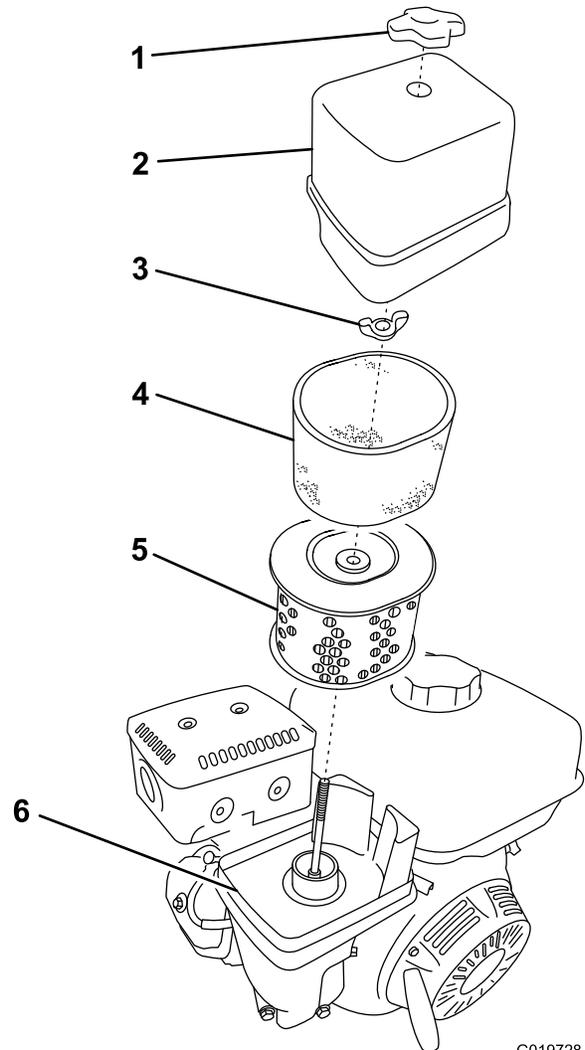

Figure 43
3. Remove the nut that secures the cover (Figure 43).
- Remove the foam and paper elements from the base (Figure 43).
- Remove the foam element from the paper element (Figure 43).